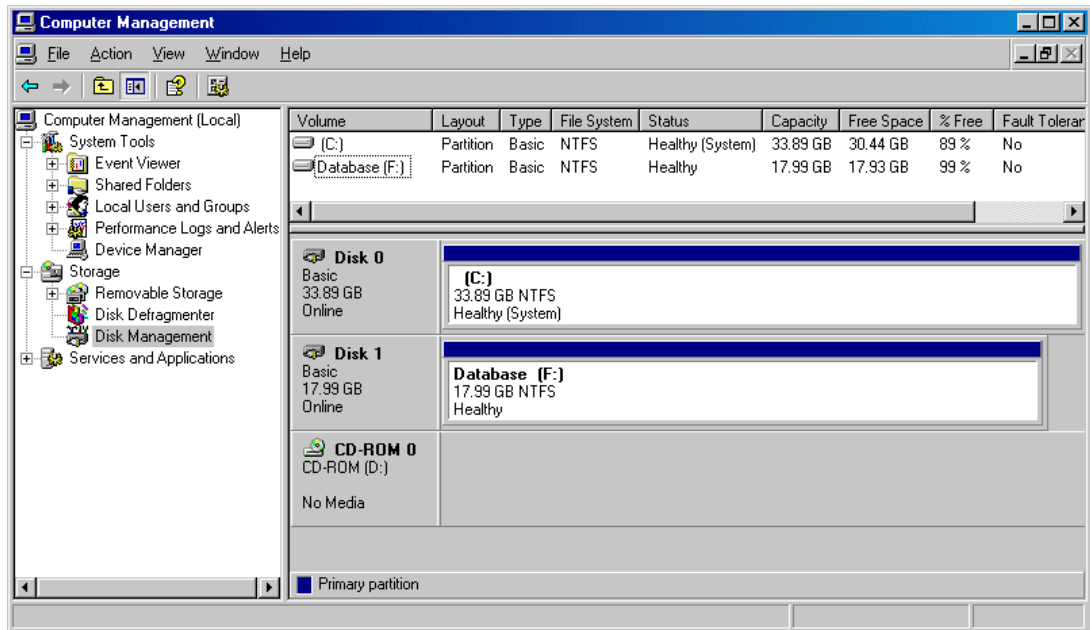

Figure 10-8 Windows drive status before FlashCopy
4. The Windows system has two drives defined. One is the C drive, which is System disk; and the other is the 18GB disk on the FASTt Storage Server. See Figure 10-8 on page 328.